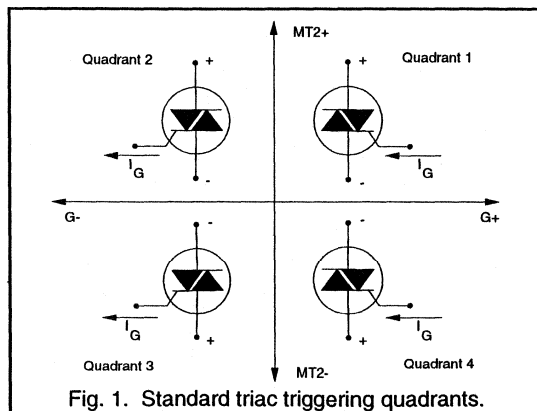

Fig. 1. Standard triac triggering quadrants.
The gate of a triac allows conduction in both directions to be initiated by either a positive or a negative current pulse between gate (G) and main terminal (MT1). The four different modes of triggering are often called 1+, 1-, 3- and 3+ (or sometimes quadrants 1, 2, 3 and 4) and are shown in Fig. 1.